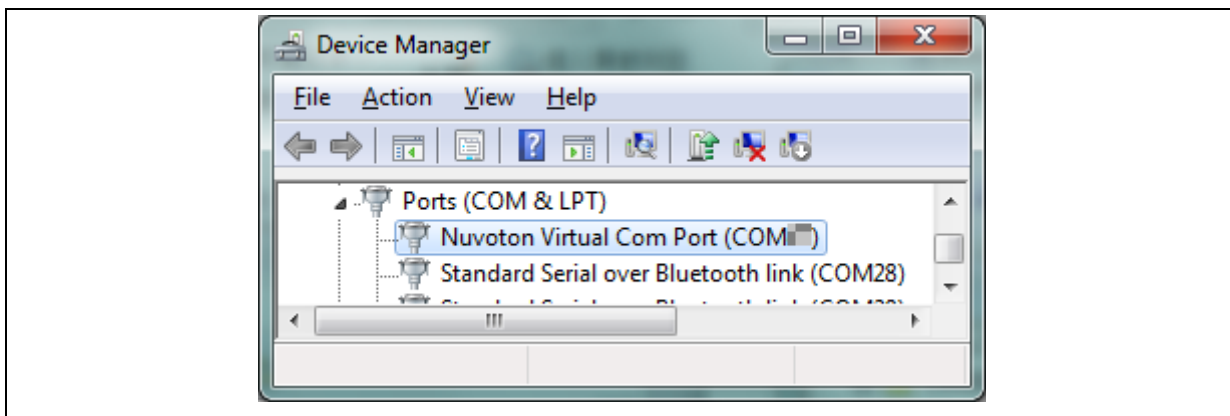

Figure 3.4-3 Device Manger
3. Find the “NuvoTon Virtual COM Port” on the Device Manger as Figure 3.4-3.